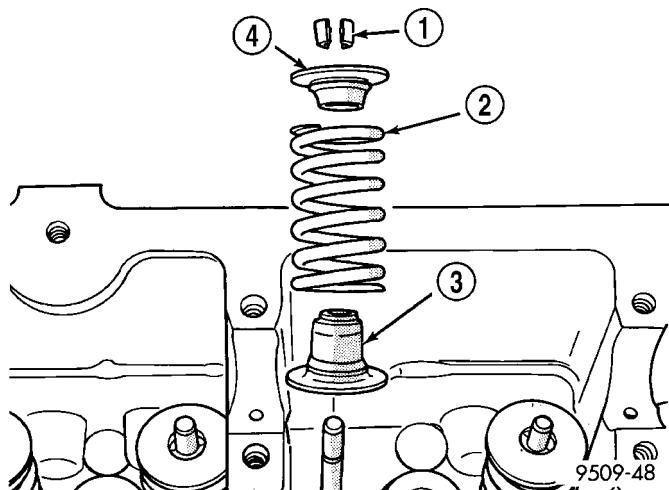

Fig. 34 Valve Stem Seal/Valve Spring Seat
(1) Install valve seal/valve spring seat assembly (Fig. 34). Push the assembly down to seat it onto the valve guide.